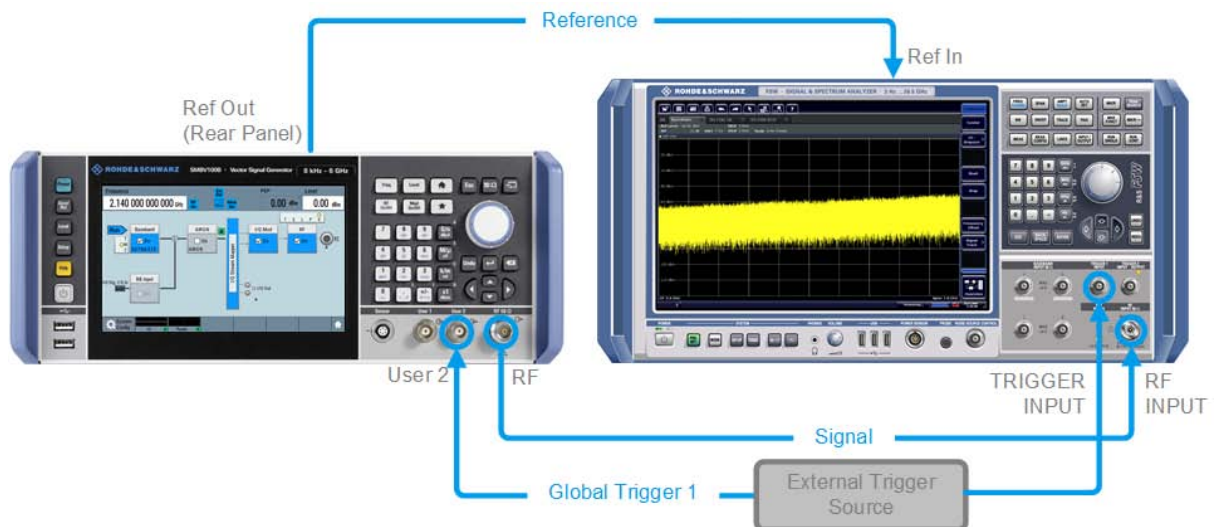

Figure 6-6: Simplified representation of a test setup**
1. Use a suitable cable to connect the external trigger source to the User 2 connector of the R&S SMBV100B. See Figure 6-6.
The Figure 6-6 depicts the location of the connectors and explains the connection as principle. In practice, you would rather "substitute" the analyzer by a DUT, like a base station (BS). Other than in the example, the DUT can be the source for the reference signal. Instead of using an external trigger source, the DUT can also send, for example, a frame trigger signal to the R&S SMBV100B. The R&S SMBV100B acts still as the signal source.